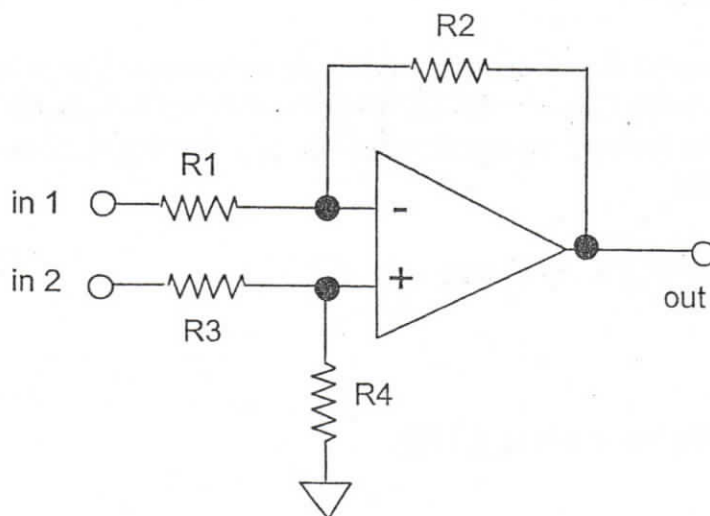

Figure 7-6 Differential Amplifier
“ The circuit in Figure 7-6 is a differential amplifier.
- ☞ Connect the circuit in Figure 7-6, using resistor values